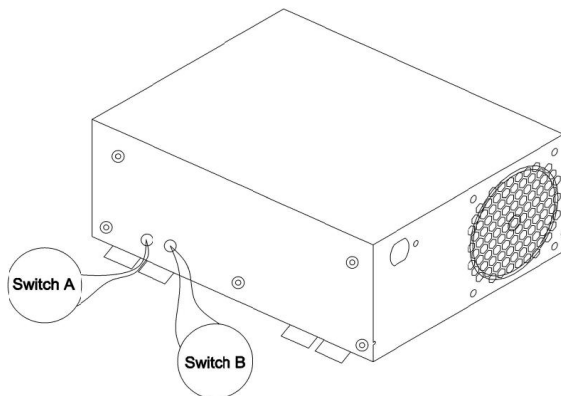

Figure 3
12. Switch A and Switch B: Switch A is a three-segment selector switch that selects Acid Mode/Fixed Output Mode/Lithium Mode from left to right. Switch B is an adjustable potentiometer that adjusts the 13.0V-16.5V output voltage range from clockwise in the fixed output mode state (switch B is not adjustable in acid mode/lithium mode).(Figure 3).